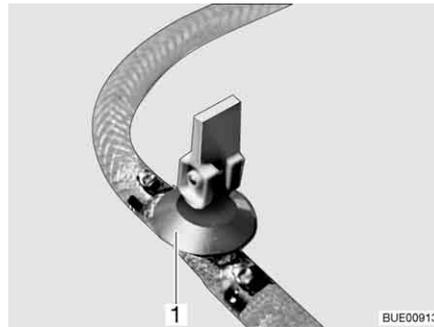

Fig. 214 Drain cock
- Close the drain cock(s). Position the rocking lever (Fig. 214,1) horizontally.
- Open drain cock(s) (Fig. 214). To do so, set the rocking lever (Fig. 214,1) in a vertical position. The boiler is drained to the outside.